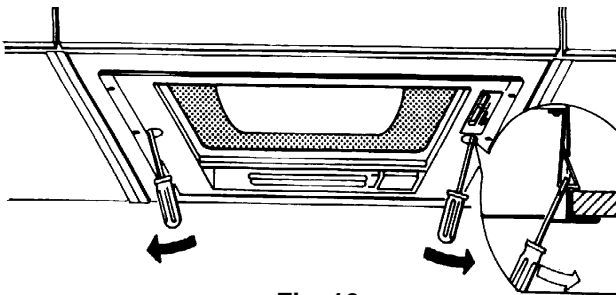

Fig. 10
- Push a flat screwdriver into the hole for the fixing springs (right and left) and push each of the fixing springs inwards. **Fig. 10**.